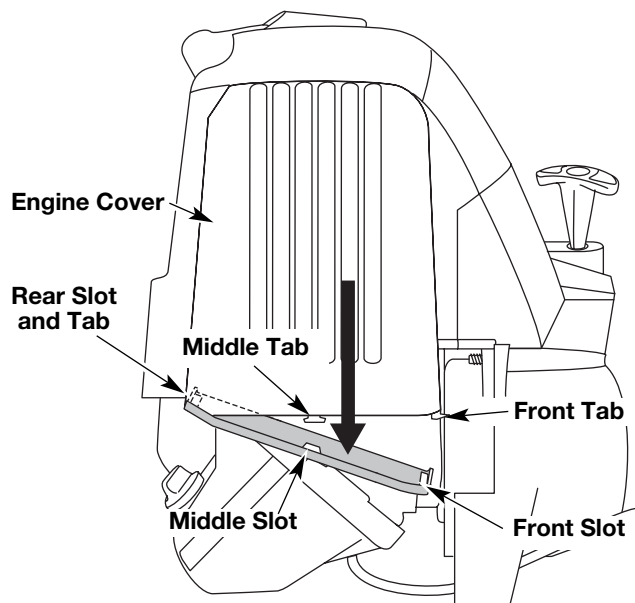

Fig. 34
1. Remove the muffler cover by pressing down on it, separating it from the engine cover. Using a flat blade screwdriver, disengage the middle and front tabs and slots first. The cover will hinge off from the rear tab (Fig. 34).
13. Reinstall the muffler cover. Slip the rear tab on the muffler cover into the engine cover rear slot. Then slide the remaining slots into the tabs until they snap into place (Fig. 34).